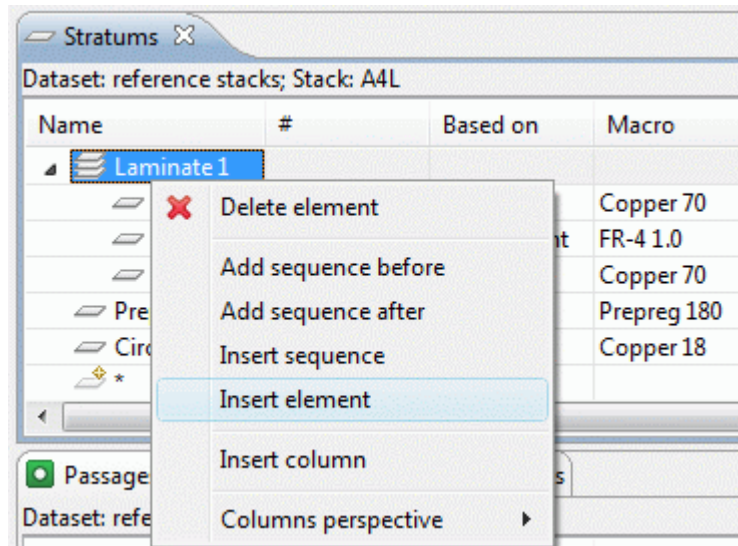

Figure 2. Context sensitive menu, selected Insert element menu item
- Select the **Insert element** menu item in the context sensitive menu (see Figure 2).